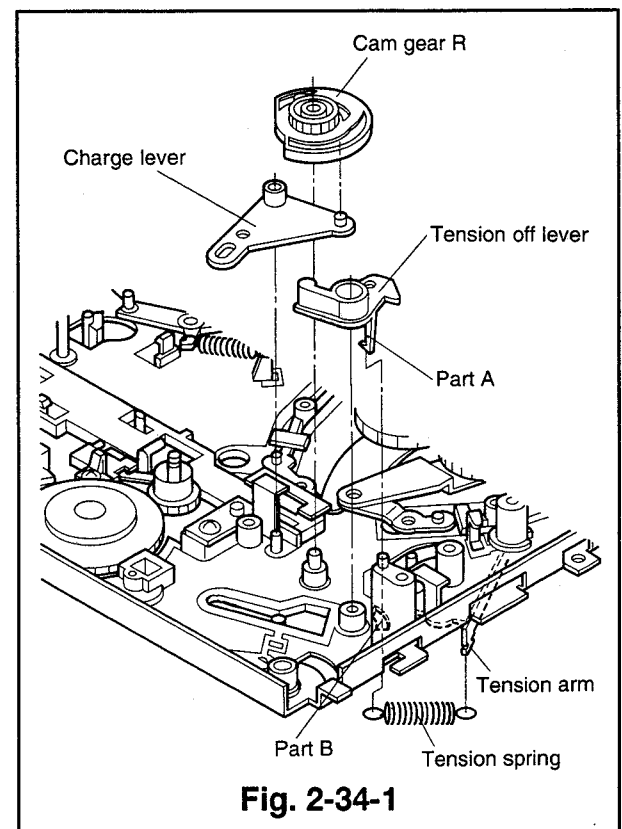
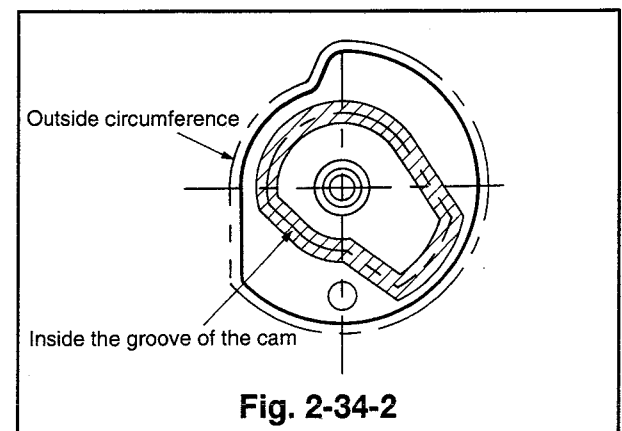

Fig. 2-34-1
Fig. 2-34-2
(Refer to Fig. 2-34-1.)
- ⑨ Remove the charge lever. (Refer to Fig. 2-34-1.)
- ⑩ Remove the tension off lever. (Refer to Fig. 2-34-1.)
- ① Let part A pass through part B shown in Fig. 2-34-1 to install the tension off lever.
- ② Fix the charge lever to the shaft.
- ③ Apply grease (PG-641) [859D055O30] to the area shown in Fig. 2-34-2 of the new cam gear R.